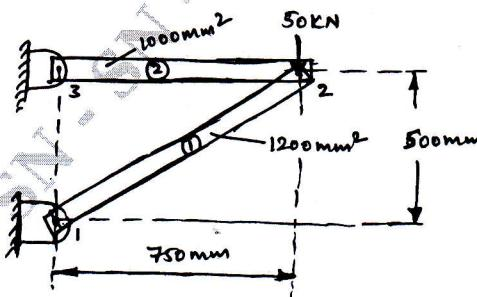

Fig.Q4(b)
- b. Find the nodal displacement, stress and reaction of truss element shown in Fig.Q4(b). Take  $E = 200 \text{ GPa}$ .